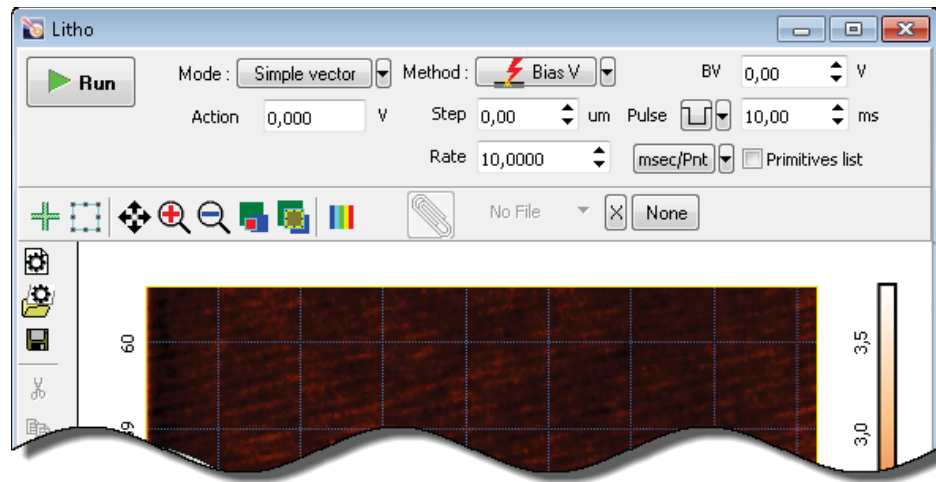
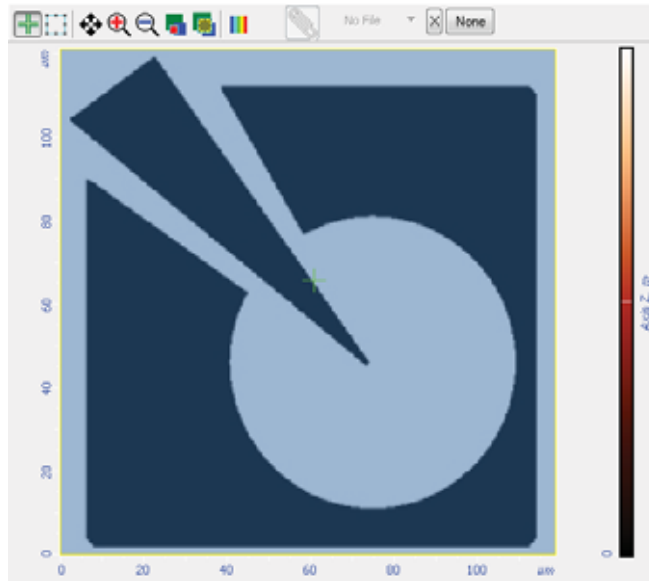

Fig. 13-49. Litho window
Fig. 13-52. Template for raster lithography is loaded
2. Open the **Litho** window by clicking the  button (Fig. 13-49).
To load a lithography template, click the **Select Litho Image...** button in the Control panel of the **Litho** button (see Fig. 13-49). This will open the standard **Open** dialog. In this window, select the desired file and click the **Open** button. The template image will appear in the **Litho** window (Fig. 13-52).